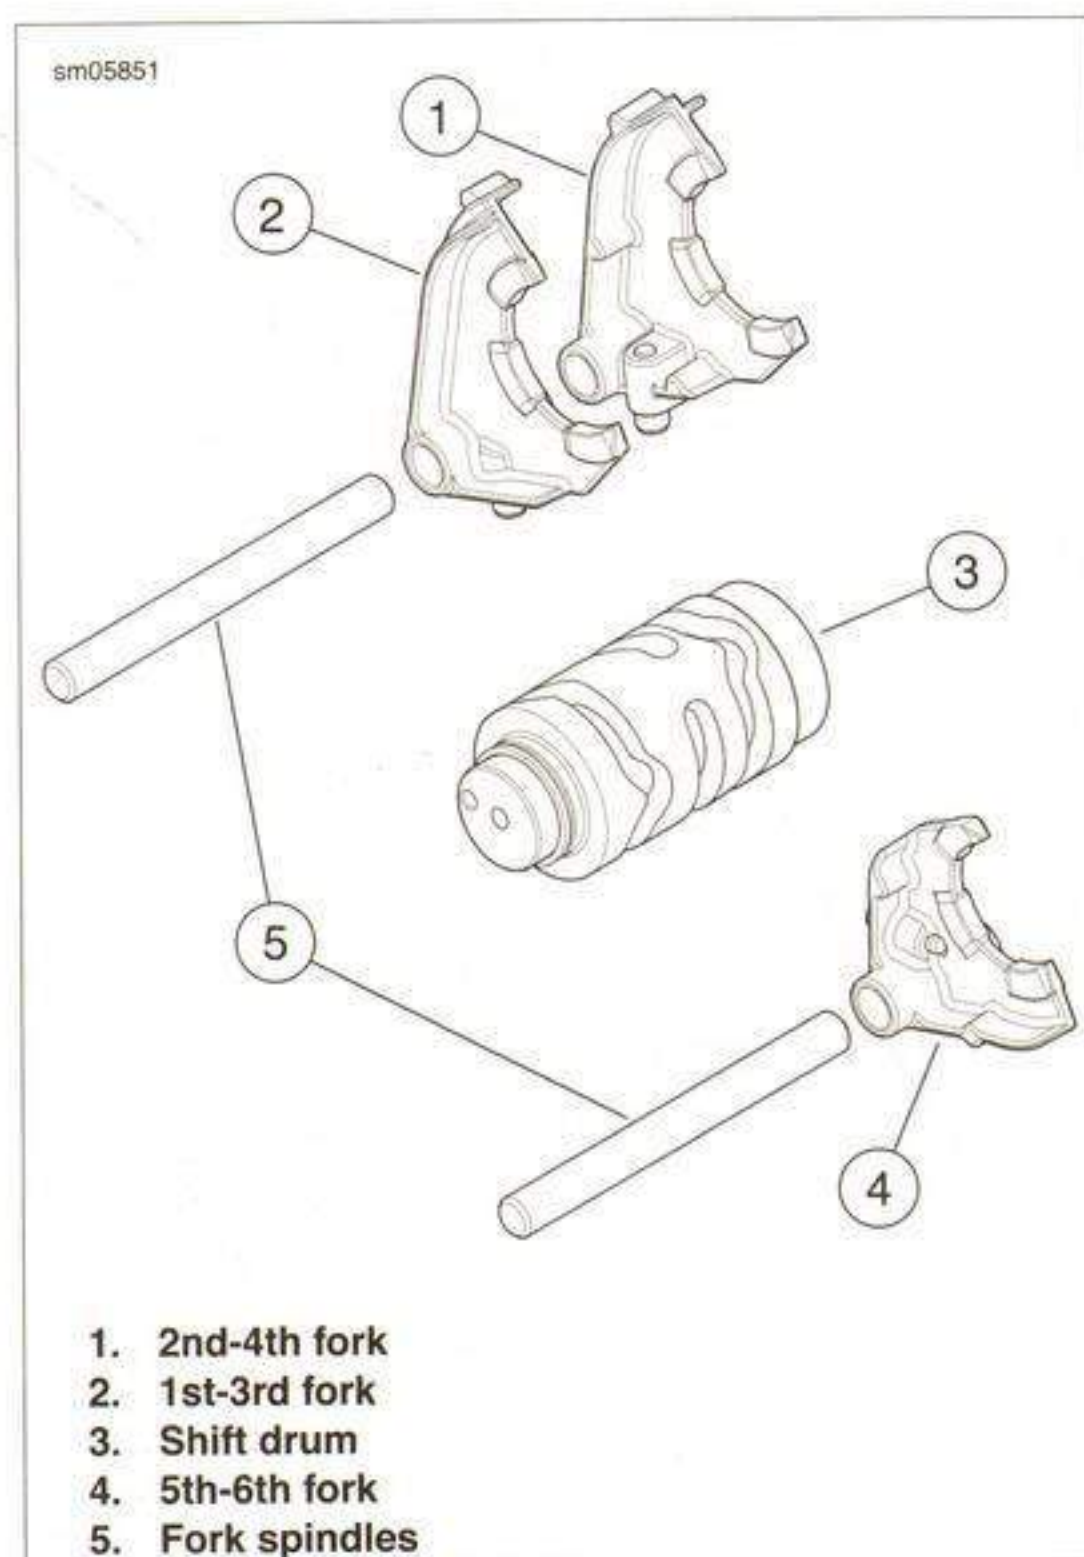

Figure 6-78. Shift Drum and Forks
See Figure 6-78. The 1st-3rd fork (2) and the 2nd-4th fork (1) face each other like clamshells. The 5th-6th fork (4) can only be installed one way.